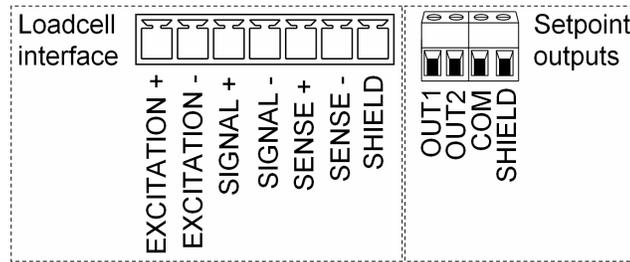

Figure 4: Loadcell interface and setpoint outputs
- § Connect the loadcell(s) to the 7-way connector, as displayed in Figure 4.
- § Connect setpoint outputs as shown in Figure 4, if used.